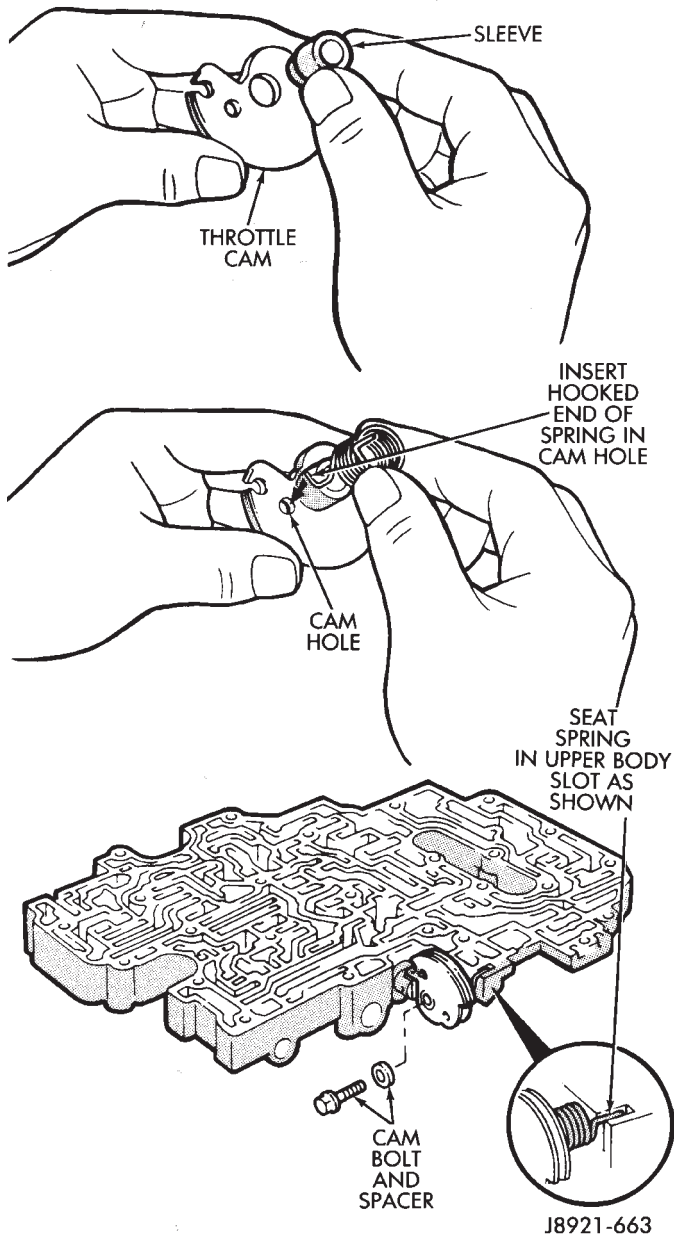

Fig. 20 Installing Throttle Cam
(15) Install sleeve in throttle cam (Fig. 20).
(16) Install spring on cam (Fig. 20). Hook curved end of spring through hole in cam as shown.
(17) Mount cam on upper body and install cam attaching bolt and spacer (Fig. 20). Tighten bolt to 10 N·m (7 ft. lbs.) torque.
(18) Be sure straight end of spring is seated in upper body slot as shown (Fig. 20).